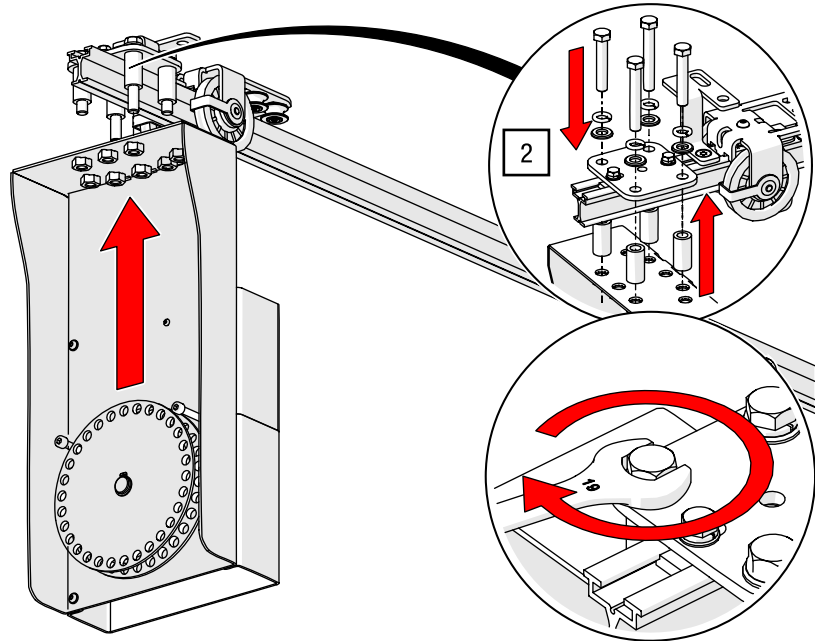

Fig. 117: Manual drive ROPE-DRIVE – Screw to mounting plate
2. Screw the ROPE-DRIVE to the mounting plate and the mounting material using an open-end wrench AF 19 and 93 Nm (see Fig. 117).